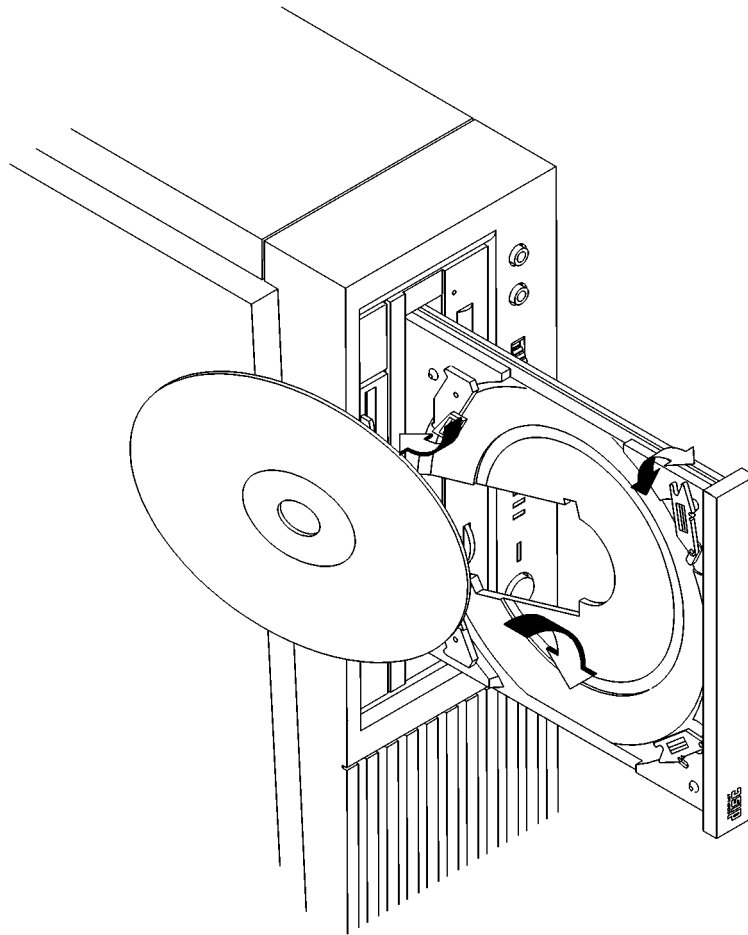

Figure 8
- 2 Hold the disc with the label side away from the tray and place the edge of the disc onto disc holders A and B as shown in Figure 8.